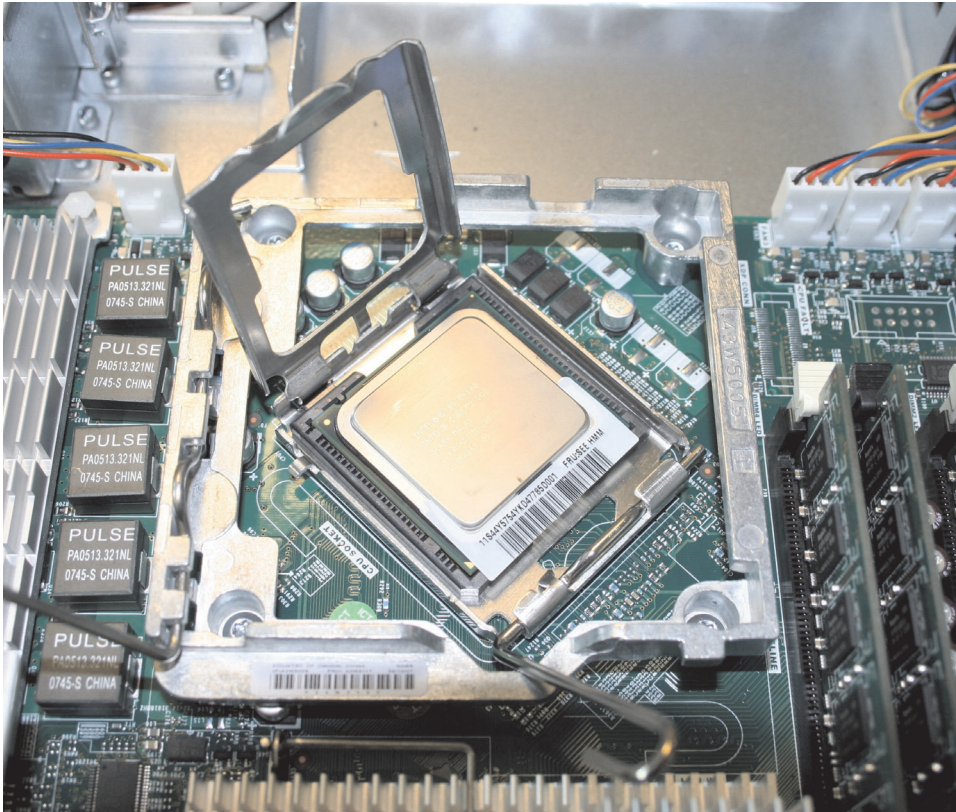

Figure 282. The SAN Volume Controller 2145-8A4 microprocessor bracket frame fully opened
2. Orient the microprocessor retention module as shown in Figure 282 on page 258.